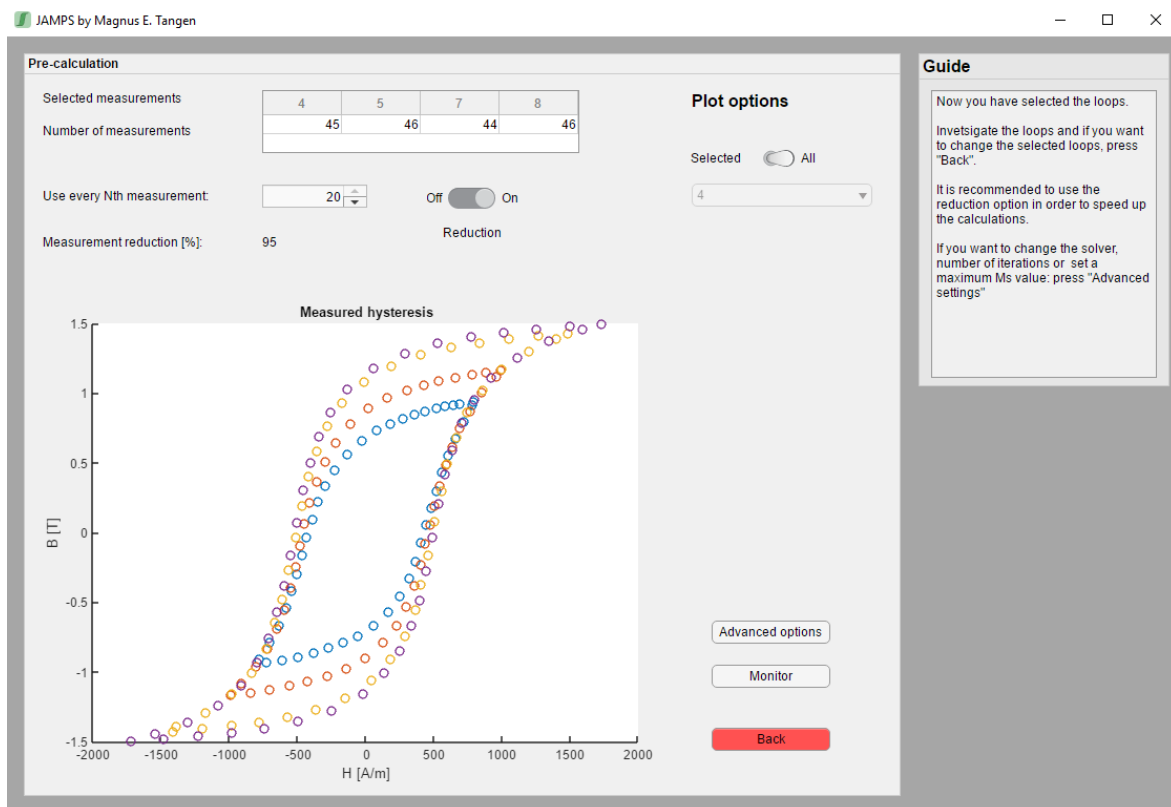

Figure 1.5: JAMPS manual - Reduction of measurements in selected DC hysteresis loops
- 1 By flicking the Reduction switch to 'On' the number of measurements used in the parameter search can be reduced, as seen in Figure 1.5.